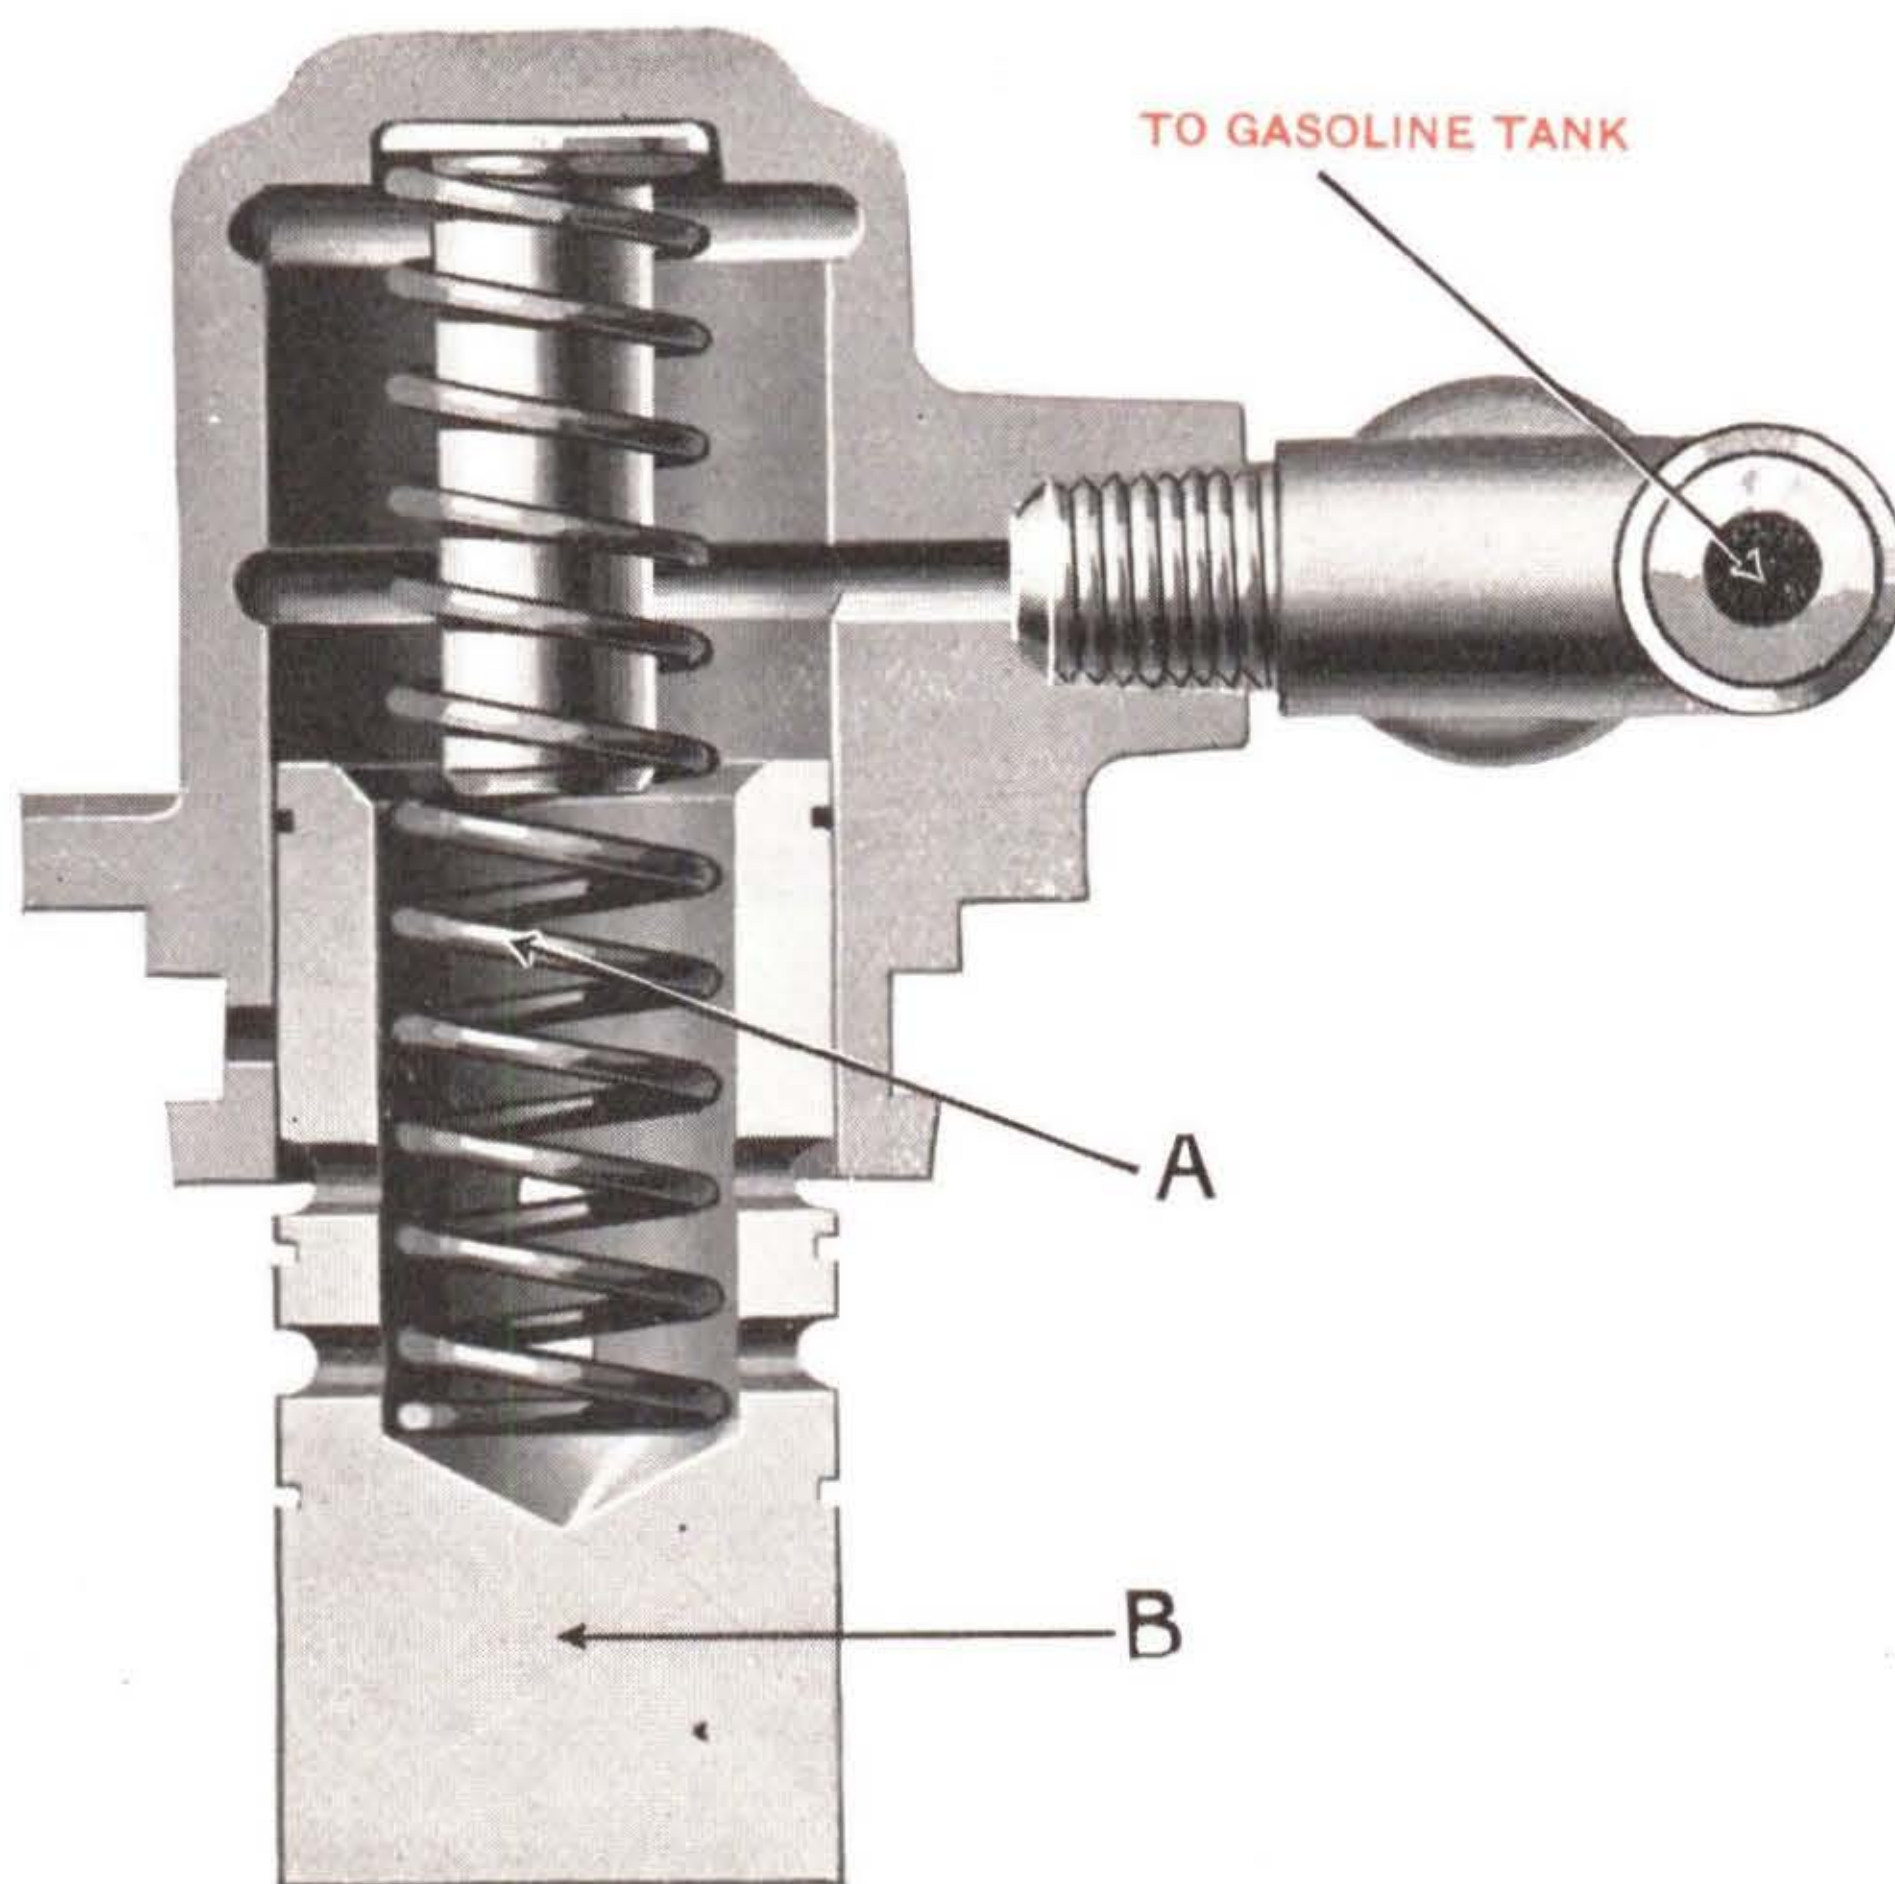

Fig. 7—Gasoline Pressure Pump.
When the motor is running, by means of a gasoline pressure pump, operated from the cam shaft. (See Fig. 7, Page 26.)
(See Figure 7, Page 26, for sectional diagram.)
The pressure pump is attached to the forward end of the crank case on the left side. It is a simple two-cycle plunger pump and is operated by an eccentric on the cam shaft. As the cam shaft revolves a spring (A, Fig. 7) forces down a plunger (B). This creates a vacuum in the pump, which is filled by air rushing in through a port. Continued revolution of the cam shaft drives the air out of the pump through two other ports, and so into the gasoline tank.